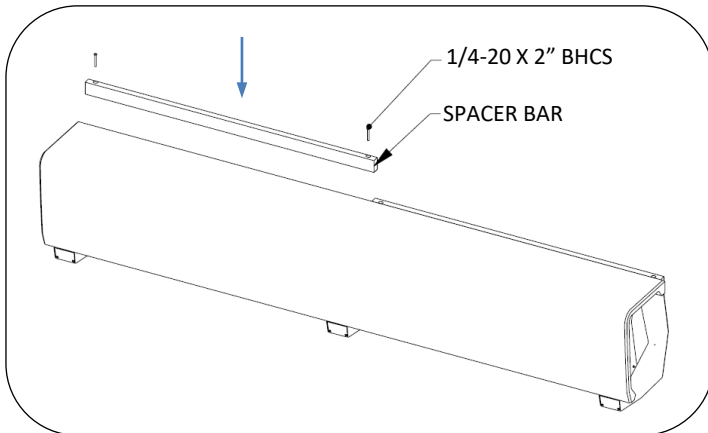

Fig. 12
14. Install spacer bar, see Fig. 12. Use caution to prevent damage to concrete. Tighten snug to support, do not overtighten.